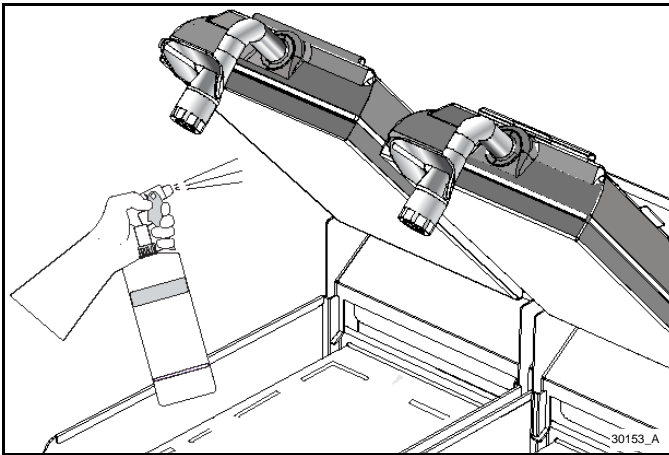

Figure-110
17. After spraying the sides, spray the surface of each upper platen three times to cover the bottom, middle, and top. See Figure-110.